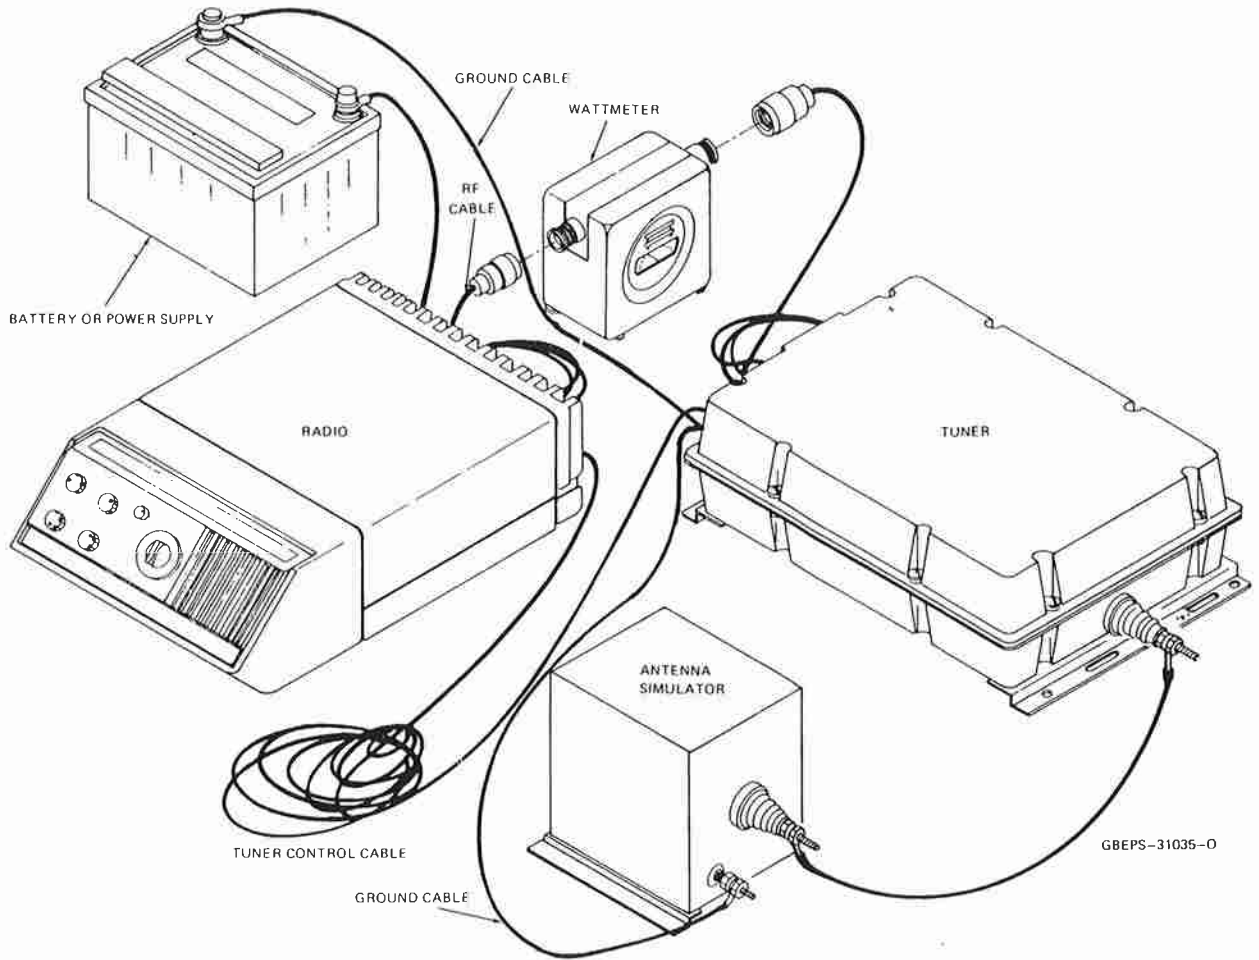

Figure 1. Typical Pre-Operational Check Configuration
The recommended setup for the preoperational check consists of all of the components that comprise the radio system, with the antenna being replaced by an antenna simulator circuit. The recommended setup is shown in Figure 1.
Circuits for construction of the antenna simulator shown in Figure 1, are shown in Figures 3 through 5.
- Step 1. Set up the components of the radio installation as shown in Figure 1.